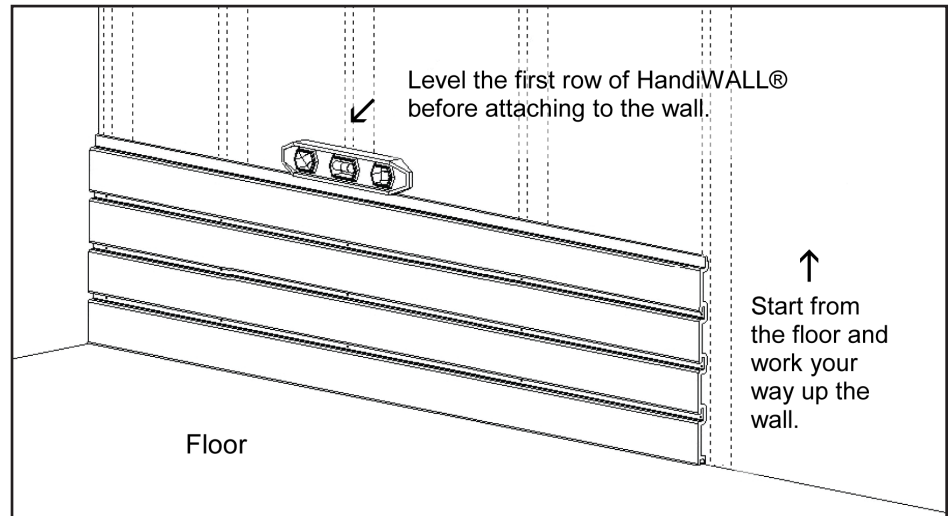

Figure 1. Level HandiWALL® before attaching it to the wall
2. Mark on your wall where you want the bottom of your HandiWall® installation to begin (this may be your floor). (See Figure 1)